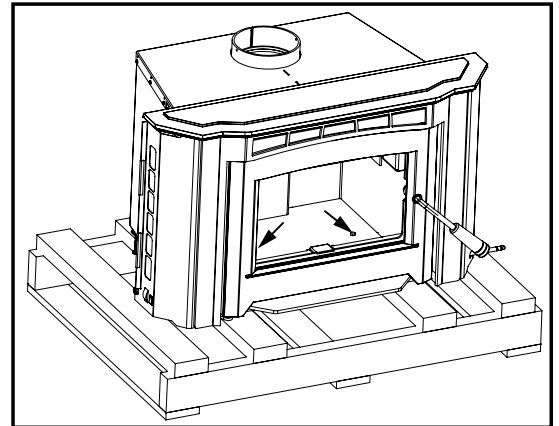

Figure 6: Bolts to remove.
- Remove the two (2) lag bolts (shown in Figure 6) that secure the unit to the pallet from inside the firebox.